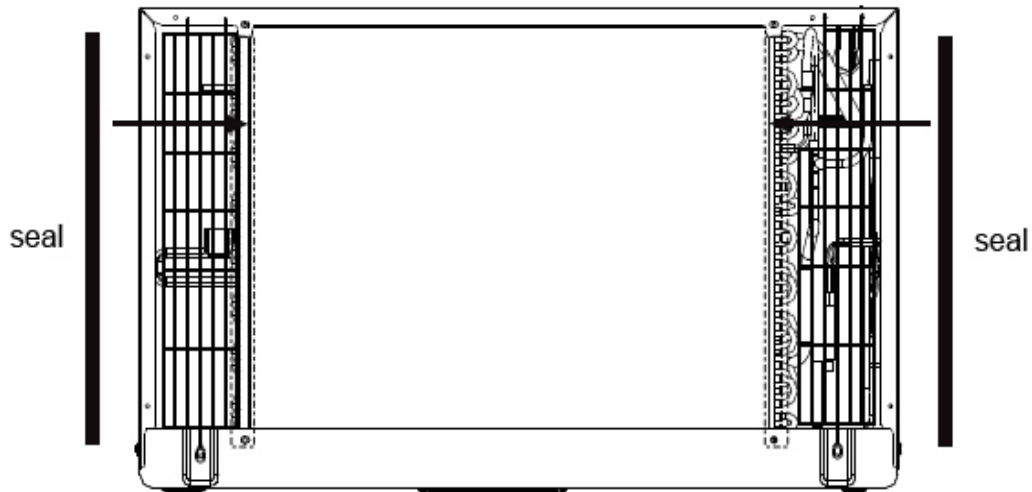

Fig. 1
1. Attach the two (2) seal pieces (1" X 3/8" X 14") as shown in Fig. 1.